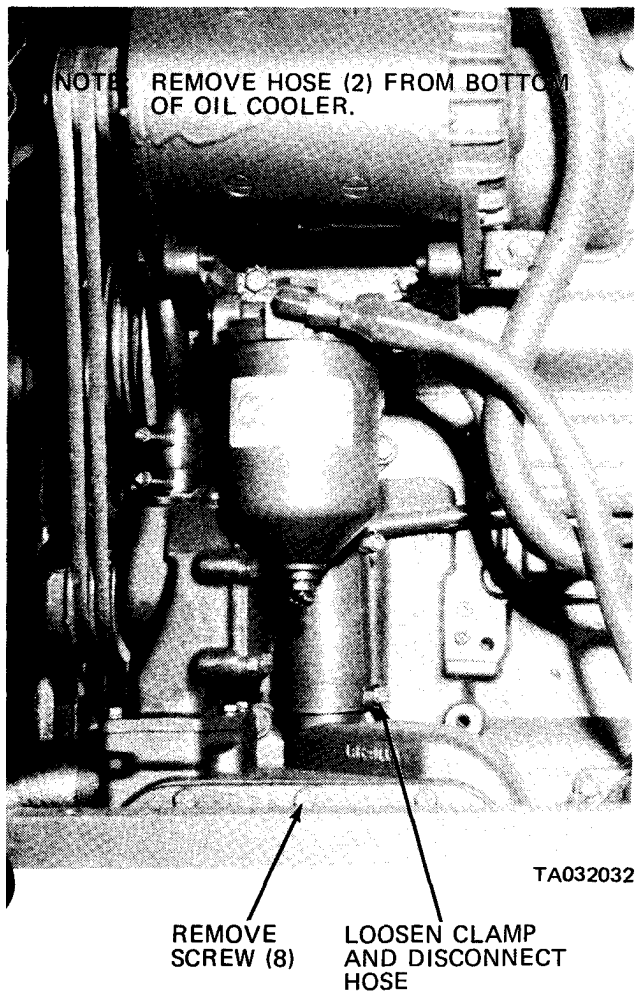

Figure 3-5. Oil cooler, removal and installation.
(3) Refer to figure 3-5 and remove the oil cooler,
(1) Refer to figure 3-5 and install the oil cooler.
(2) Install the fuel filter, oil filter and water pump (TM10-930-634-12).